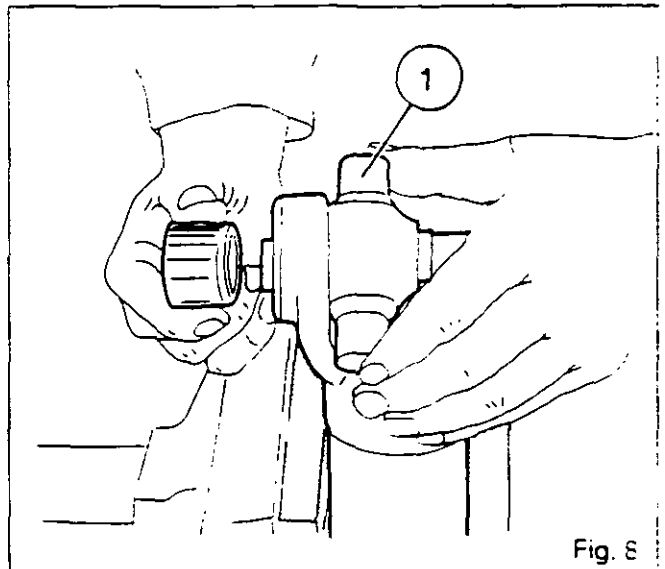

Fig. 8
94. Position the universal joint (1) in the yoke and move it sideways as far as possible to provide a guide for the needle rollers of the bearing sleeve being installed (Fig. 8).